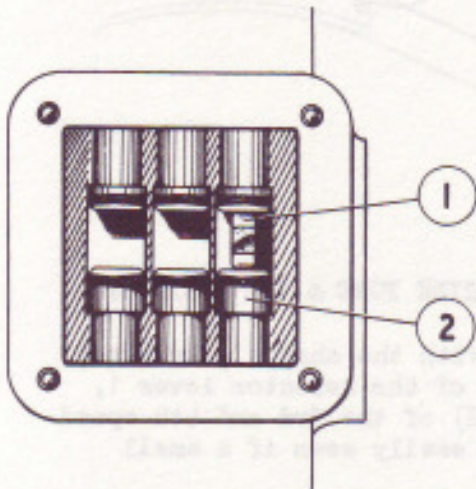
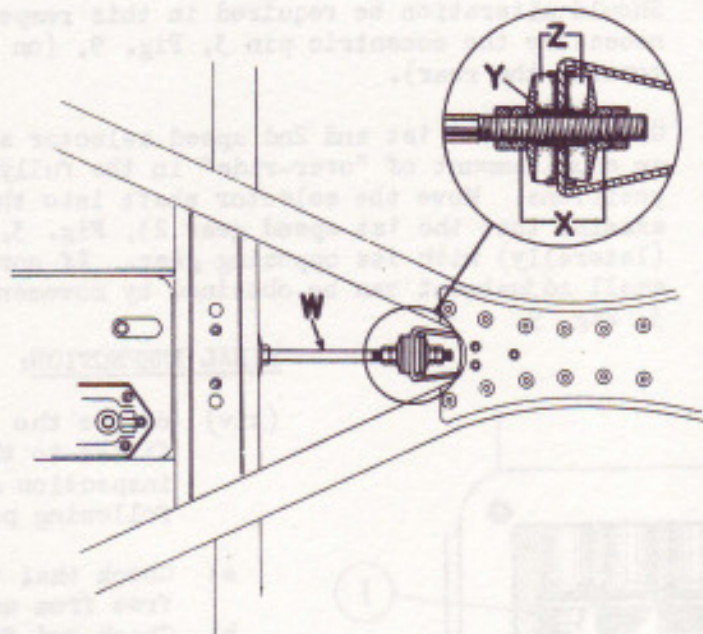

FIG. 13. CORRECT POSITION OF END OF SELECTOR LEVER (NO.1) IN RELATION TO JAW.
FIG. 14A. TIE ROD - ENGINE FORE & AFT LOCATION.
- a) Remove the top cover from the gearbox, and with the change gear lever in its neutral position, check that the end of the selector lever 1, Fig. 13, is centrally situated in the jaw (2) of the 3rd and 4th speed selector shaft as shown. This will be more easily seen if a small electric lamp is placed in the gearbox.
**NOTE:** If the adjustment (length) of the tie rod 'W' Fig. 14A, fitted between the rear end of the gearbox and to a bracket on a cross member of the frame has been interfered with and incorrectly set, this could cause the change gear lever to cross bind when moving it across the gate and/or prevent free movement of the selector lever 1, Fig. 13, across the jaws (2). The adjustment of the tie rod is correctly set during assembly of the chassis and should not normally be disturbed unless the rubber blocks 'Z' Fig. 14A, fitted to the rear and front end of the tie rod need renewing. The tie rod locates the engine and gearbox unit in